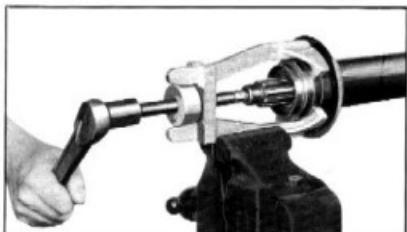

Fig. 34—Removing Propeller Shaft Intermediate Bearing
- Mount the special puller, J-1619, in a bench vise and fit the jaws of the puller in behind the bearing outer race. Turning the screw of the puller will remove the bearing from the shaft, Fig. 34.